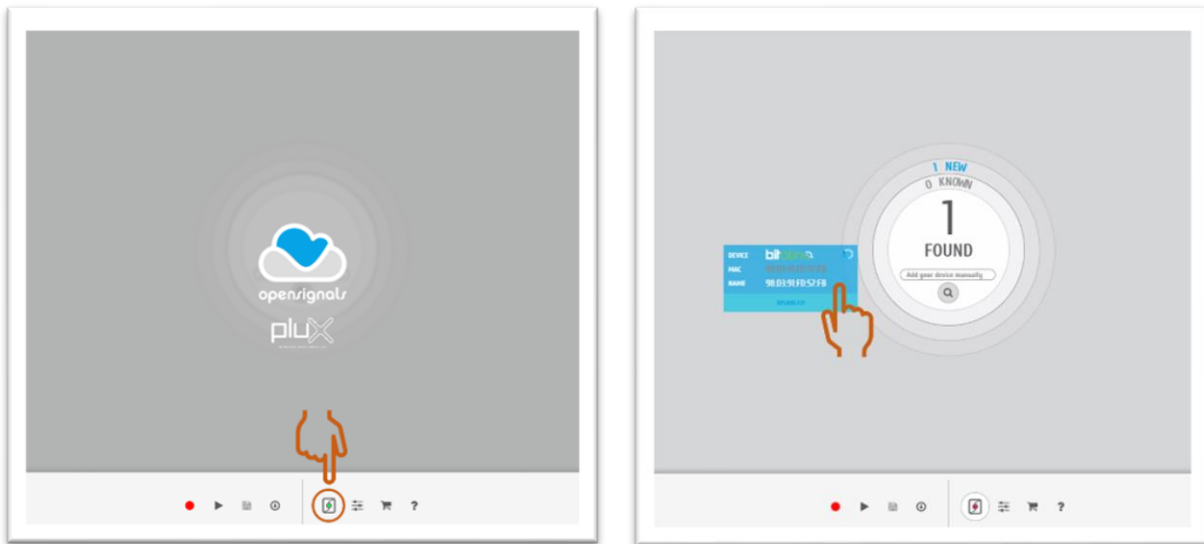
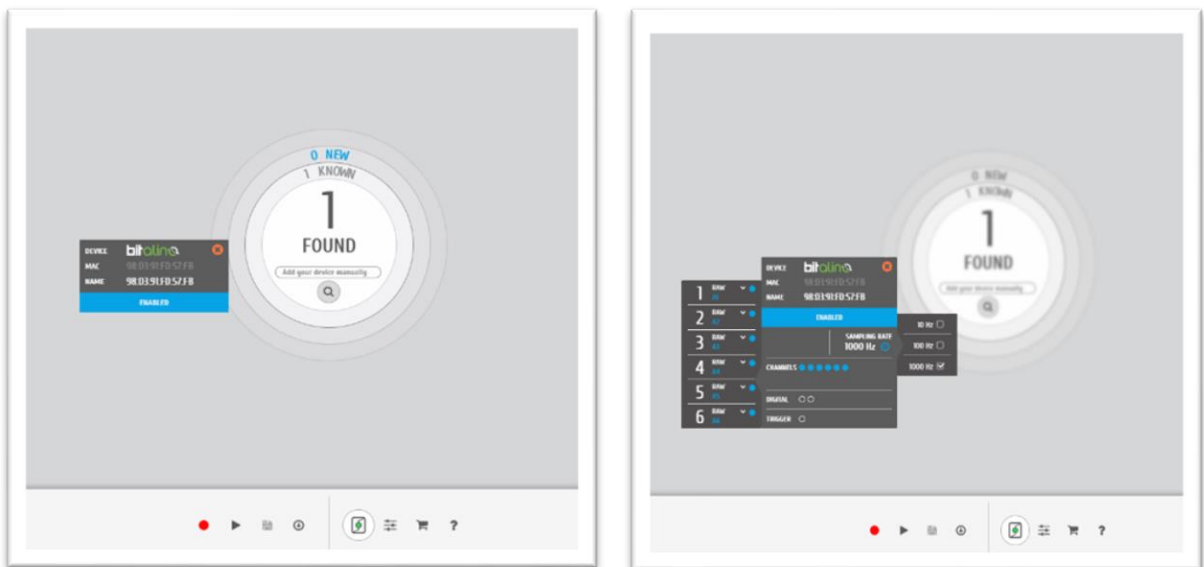

Figure 3: Sequence of steps to perform an acquisition session in the first use: Access the device manager (left) and enable the device for acquisition (right).
Figure 4: Available options in the OpenSignals Device manager: The enabled device (left) and the available options (right).
2. Access the DEVICE MANAGER screen on the OpenSignals (r)evolution software (Figure 3, left).
3. Click on your device (see Figure 3, right; the mac address on the computer should correspond to the mac address of your BITalino device) and confirm that it is enabled for data acquisition (Figure 4, left); ENABLE button highlighted in blue, as shown in (Figure 4, left).
4. Available options in the OpenSignals Device manager will pop up (Figure 4, right).